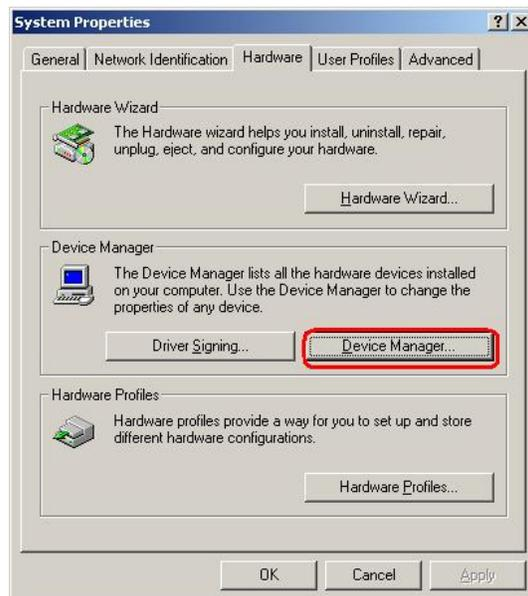

Figure 6-18: Double Click the Device Manager Tab
Step 3: Double click the **Device Manager** tab (Figure 6-18).